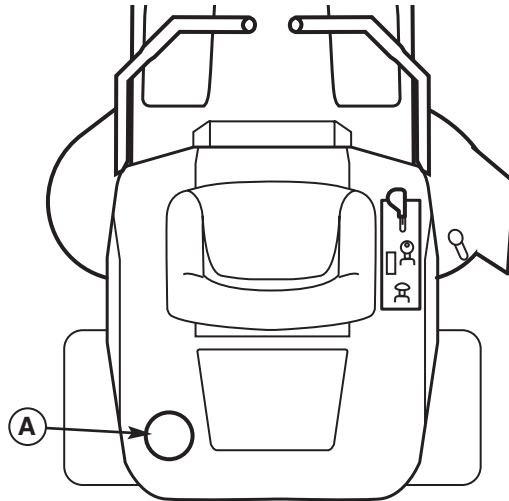

Figure 2. Pre-Start Checks
1. Remove the fuel cap (B, Figure 2).